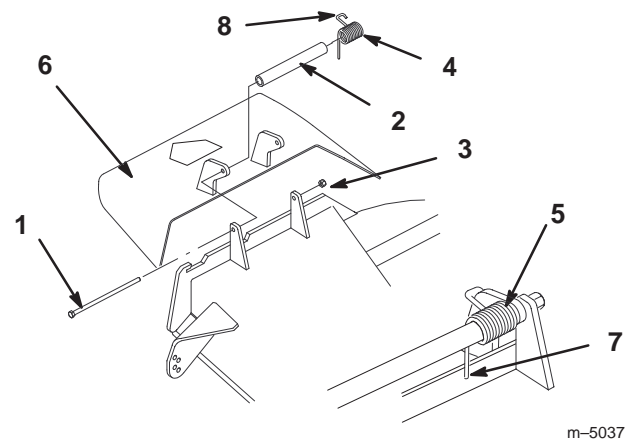

Figure 60
1. Remove the locknut, bolt, spring, and spacer holding the deflector to the pivot brackets (Fig. 60). Remove the damaged or worn grass deflector.
Note: Make sure that the straight end of the spring is installed behind the deck edge before installing the bolt as shown in Figure 60.
3. Install the bolt and nut. Place the hook end of the spring around the grass deflector (Fig. 60).